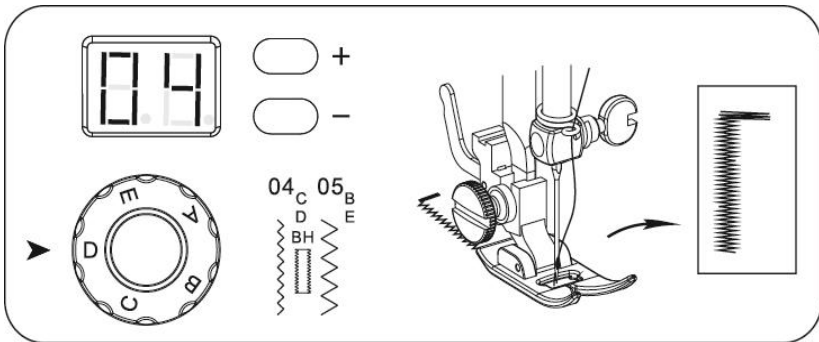

Fig.20
- 3) Select the stitch 04 and turn the stitch density dial to the position D, turn on and use foot pedal to sew on the cloth in suitable length, then stop. Note that try to keep sewed stitches in straight line. (Fig.20)